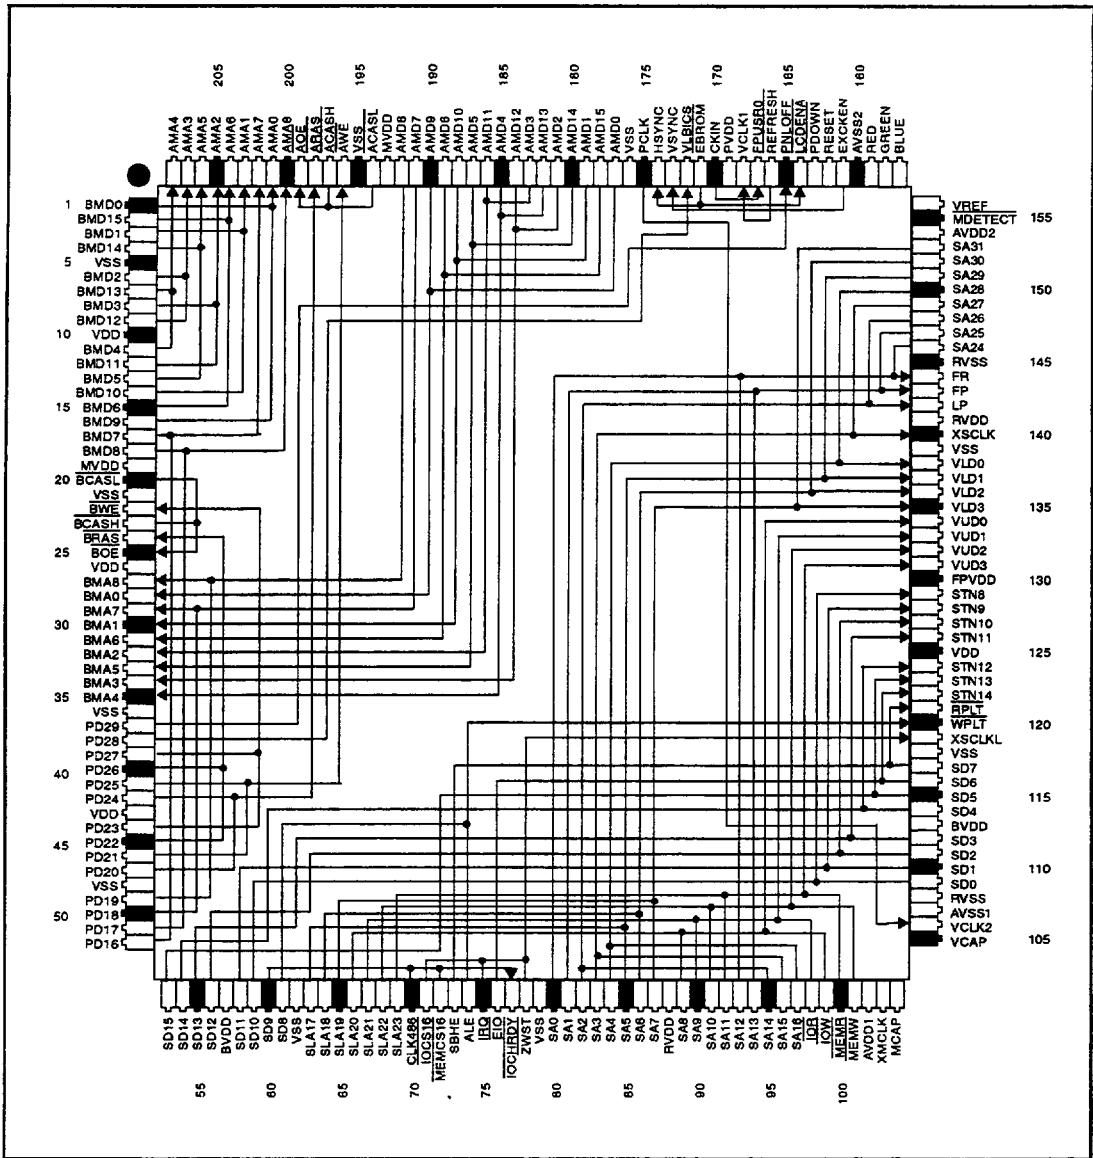

FIGURE 25-2. I/O MAPPING GROUP DIAGRAM
- An I/O Mapping Group Diagram (Figure 25-2)
Figure 25-2 provides a diagram of the I/O mapping groups (paths).